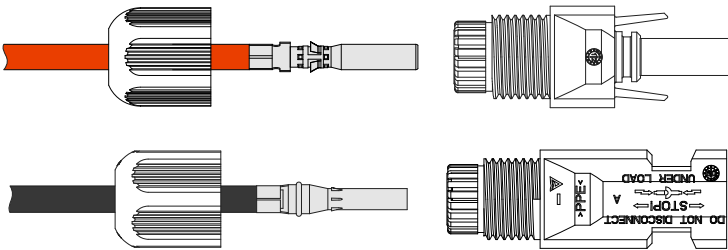

Figure3-17 Fasten the metal terminal
Step 3 Insert the positive wire and negative wire into corresponding insulation crust respectively. If there has a click sound, it means that the wire have been inserted properly, as shown in Figure3-17.